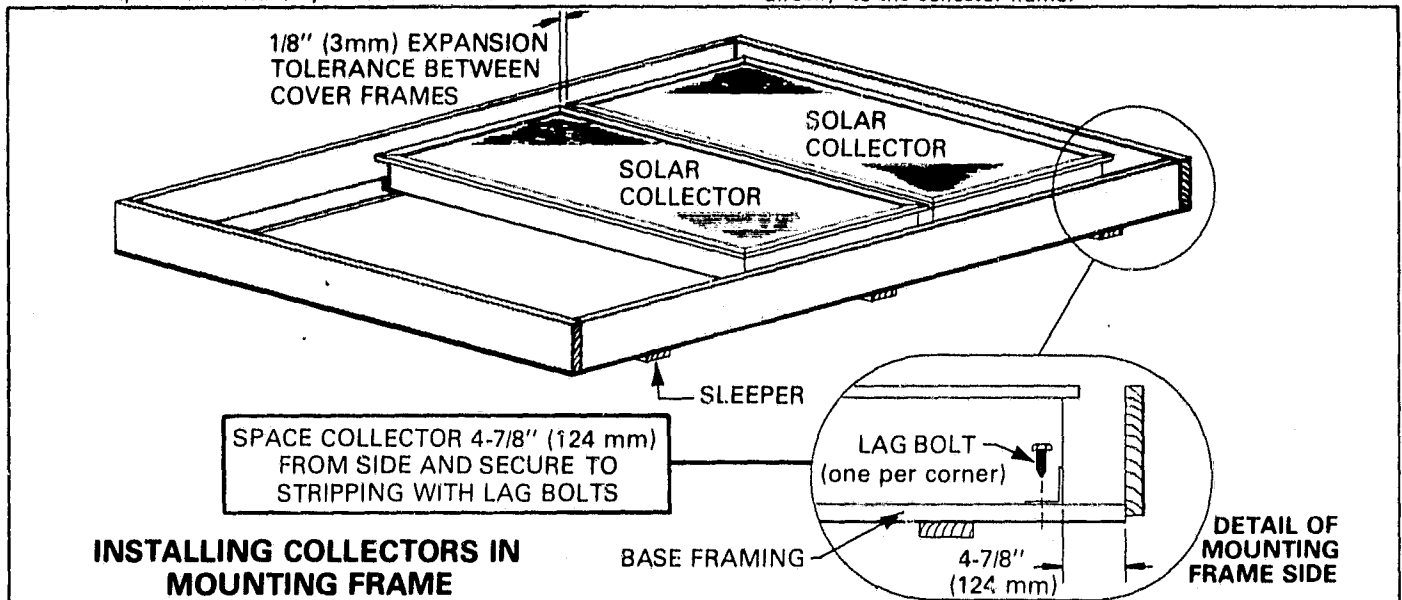

FIGURE 6
- 3 - Position first collector 4-7/8 inches from end of frame and then maintain 1/8 inch between remainder of collectors. Refer to Figure 6. Secure collectors to frame with lag bolts (4 per collector). If desired the inside spacing could enclose the supply and return header runs where they penetrate through roof.